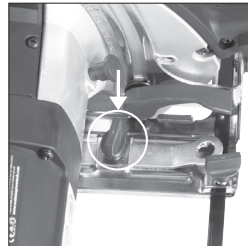

Fig. 3
- Remove the wrench from the base plate by removing the thumb screw and sliding the wrench from the machine. **(Fig. 3)**